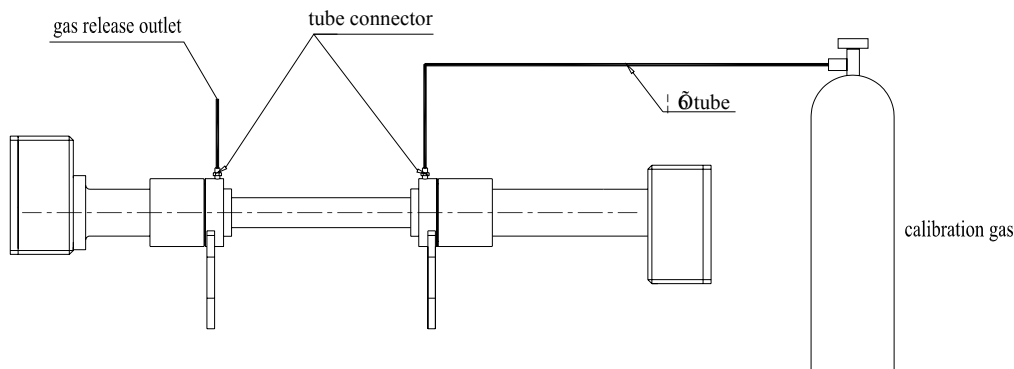

Figure 6.3 Schematic of the connection of calibration gas transport tubes
3. Mount the transmitter and receiver units to the flanges at the each end of the calibration devices, then and fasten the locknut (Figure 6.3)